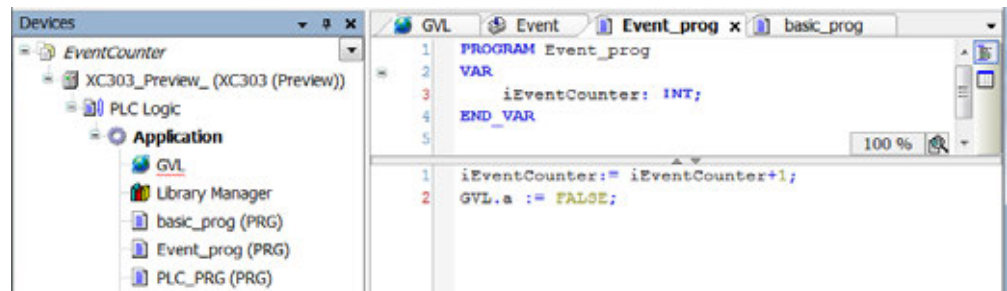

Figure 39: Programmed element for event controlled task
- ▶ You can now enter a program. The program example Param_prog (figure 39) increments the variable "value" by the value 1. The "Param_prog" program is processed if variable a = TRUE.